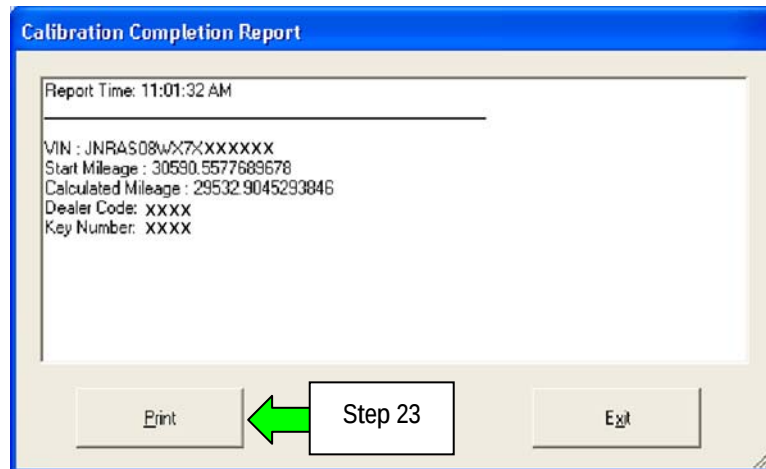

Figure 1L
22. After waiting 2 minutes, the Calibration Completion Report will display (see Figure 1L).